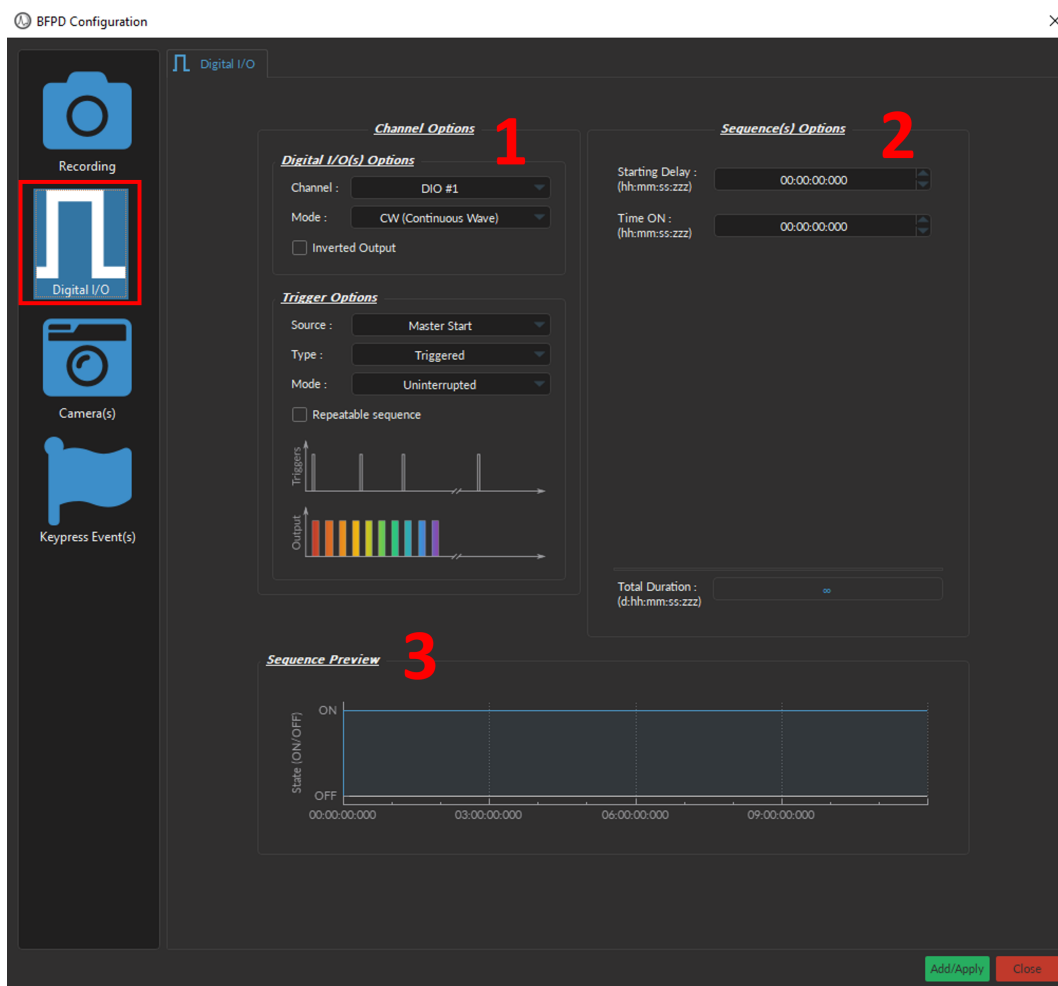

Figure 9.17: Channel(s) configuration window, Digital I/O - CW mode
The *Channel(s) Configuration* window for the **Digital I/O** Channel is divided into three sections (Fig. 9.17): (1) the **Channel Options** (Section 9.4.4.1), (2) the **Sequence Options** & (3) **Preview** (both treated in Section 9.4.4.2).